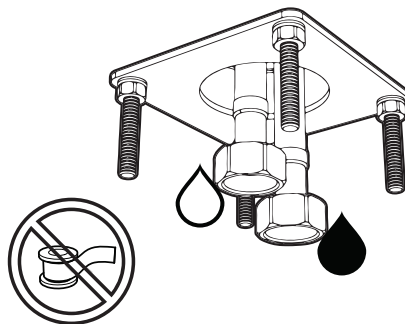

Figure 15
12. Connect the cold and hot water inlets. Turn on water supply and check for leaks as shown in Figure 15.